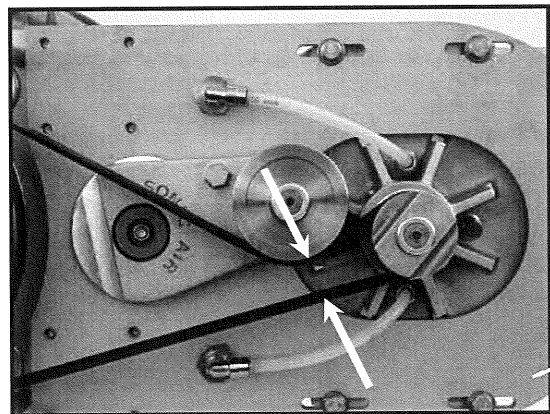

Figure 26 - Set Belt Gap to $\frac{3}{4}$ inch
6. Verify that the belt gap is approximately $\frac{3}{4}$ inch $\pm 1/16$ inch (Factory Set). (See Figure 26)